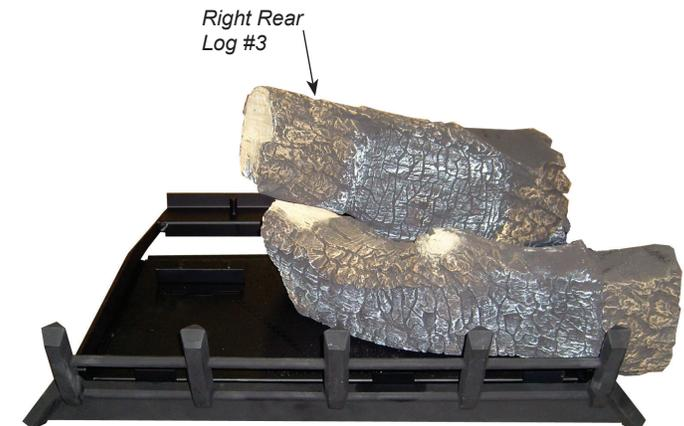

Figure 33.
- Place right rear log (#3) on pin located on rear support bracket and rest left side of log on front right log. Figure 33 After placing right rear log, ensure log is fully upright and does not tilt forward. Slide #1 log ember chunk back to contact right rear log.